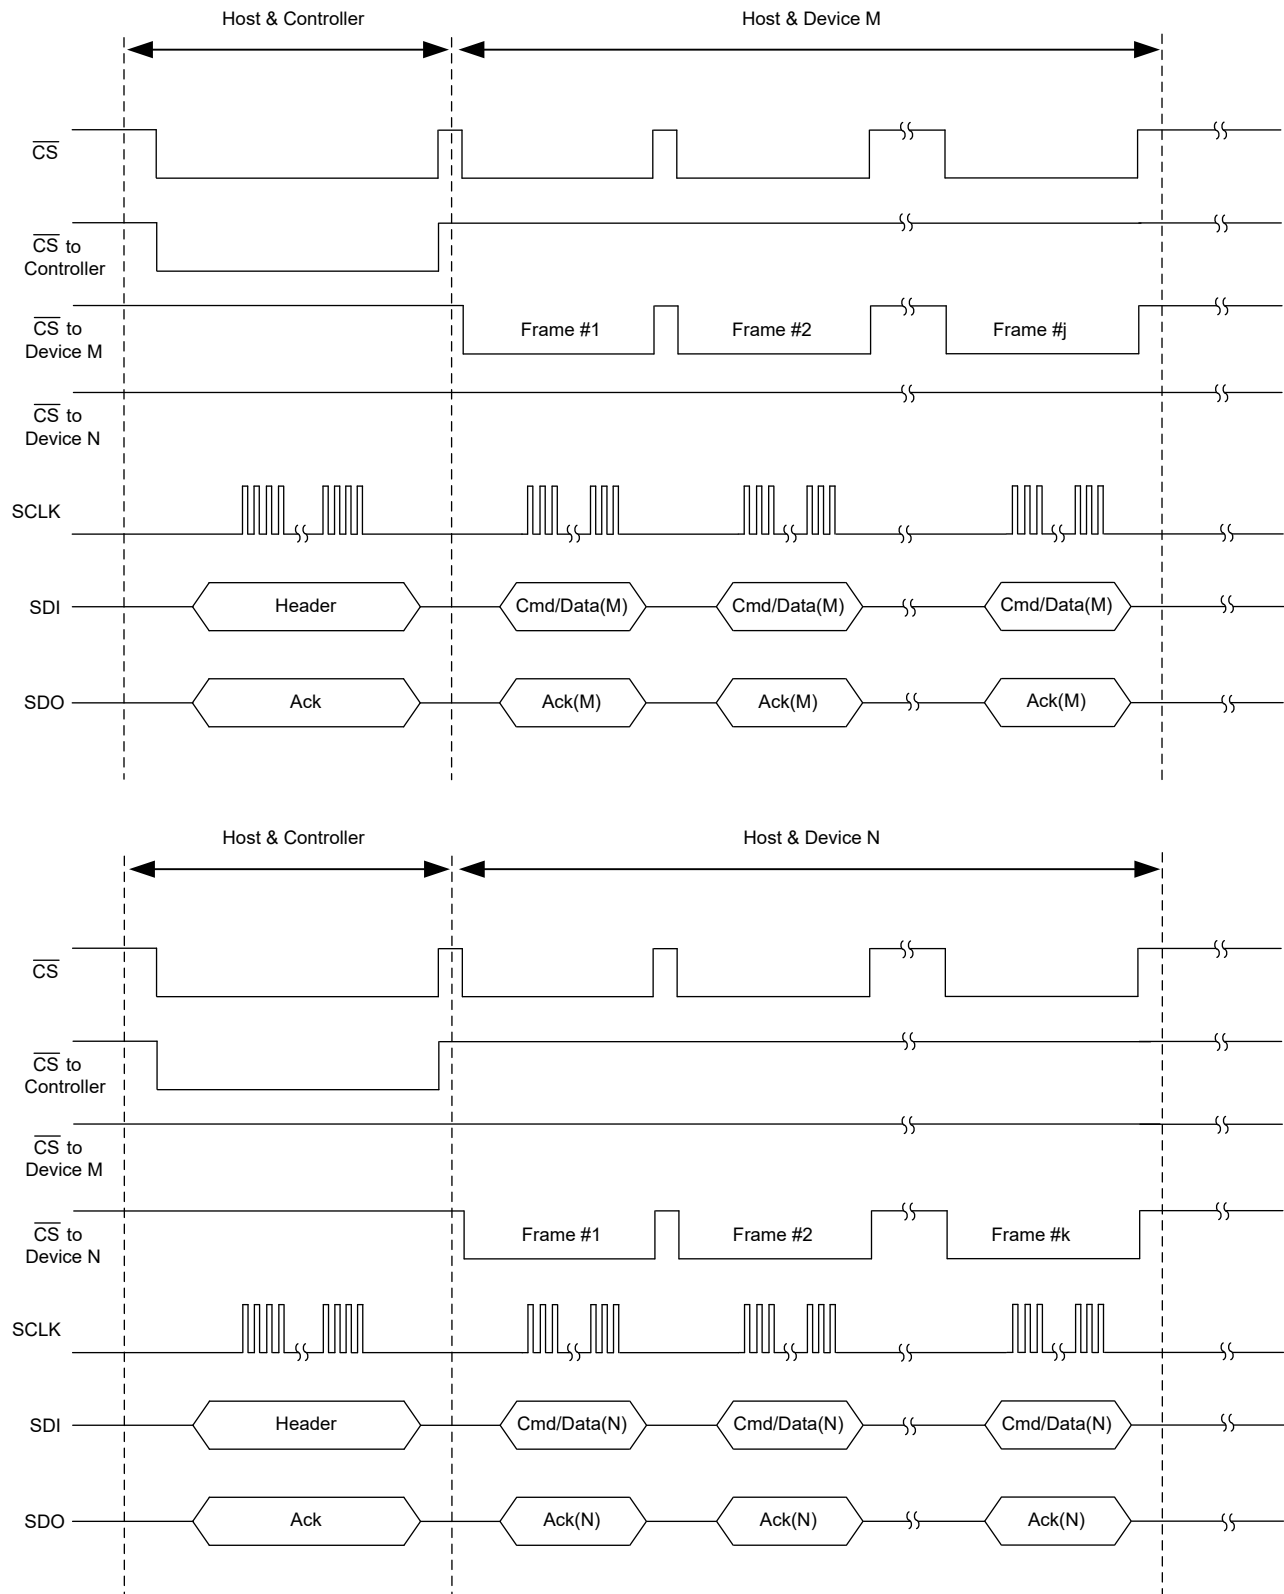

Figure 7-39. CS Forward Timing Diagram
During an UDP sequence, a header response frame is sent from the device on SDO as shown in Table 7-46, this response is denoted as Ack in the following, as shown in Figure 7-39. This consists of bits[23:16] = FFh to represent the device writing to the host, bits[15:8] repeat the data sent to initiate the UDP (first byte on SDI), and Bits[7:0] are a correct CRC for the preceding data using the polynomial $x^8 + x^2 + x + 1$. This byte of CRC is required only when CRC is enabled for the SPI, otherwise the byte is 0hFF.
Figure 7-39 shows a timing diagram for a typical CS-FWD communication sequence. In the first header frame shown, the SPI index is set to target device M. Therefore, in the subsequent frames, the $\overline{CS}$ signal is only forwarded to device M (j is the number of frames for communication to device M as specified in the header frame). In the 2nd header frame, device N is specified and communication to device N is performed in subsequent frames (k is the number of frames for communication to device N).
Figure 7-39 also indicates the responses sent from the target device to SDO. Simultaneously with each header frame, the Ack frame of the target device is visible on SDO. Thereafter, the target device sends command or data bytes to SDO depending on the commands used, for simplicity those are indicated by Ack(M) for device M and Ack(N) for device N in Figure 7-39.